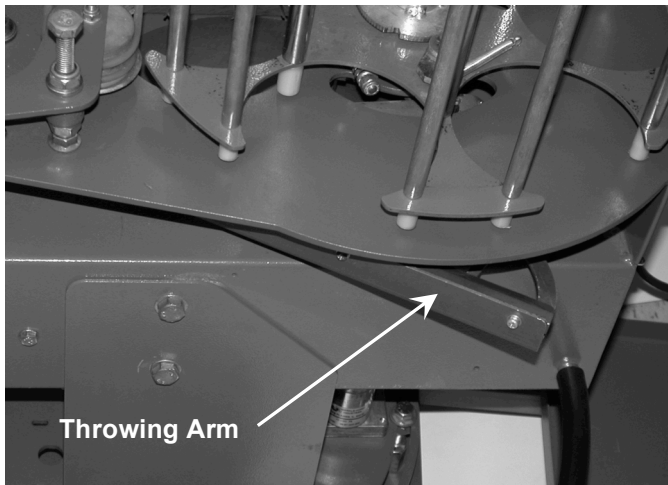
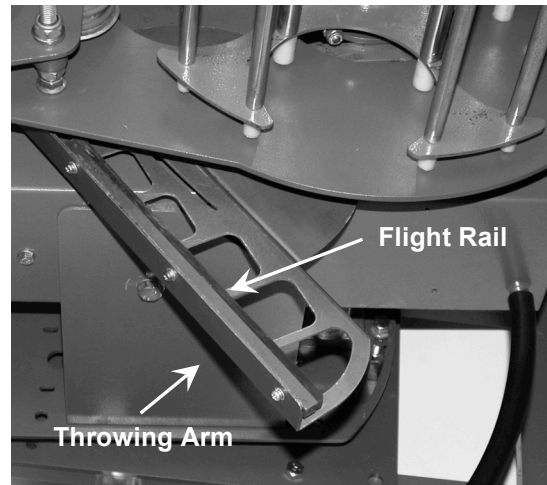

FIGURE 2
FIGURE 3
1. (FIGURES 1, 2 & 3) Before performing any work or maintenance on the EASYBIRD 6-PACKER Trap, check to see if the trap throwing arm is in the “cocked” position (FIGURE 2). If it is, move the throwing arm to the **uncocked** position (FIGURE 3) by momentarily pressing the ON/OFF/SAFE RELEASE switch (FIGURE 1) to the “safe release” position, and after the arm releases to the uncocked position, release the ON/OFF/SAFE RELEASE switch allowing it to return to the “OFF” position.